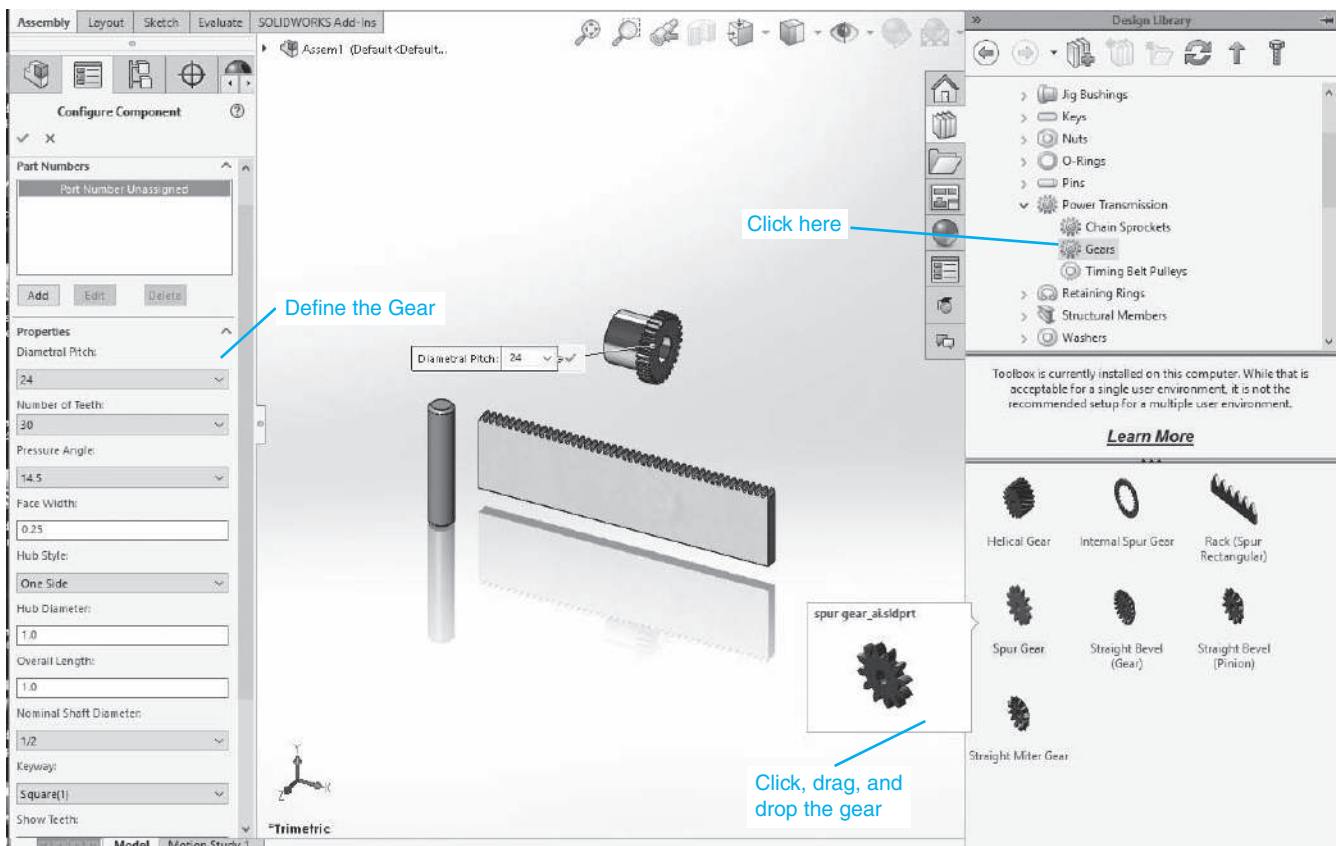

Figure 10-55
- 7** Set the pinion's properties as shown in Figure 10-55.